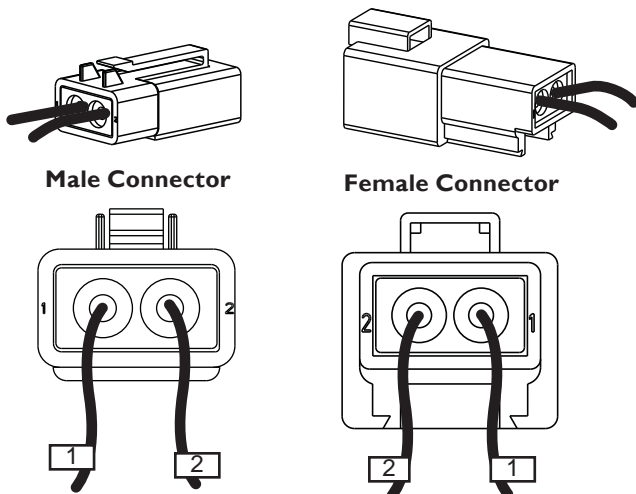

Figure 1 — Marking Field Coil Leads
1. Identify and label pin #1 and pin #2 locations on all field coil leads from **existing** male and female connectors. See Figure 1 for pin #1 and pin #2 locations on existing male and female connectors.